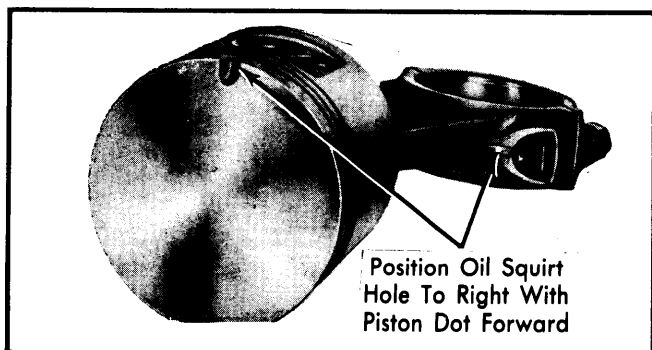

Fig. 6 Piston and Connecting Rod Alignment Marks
**NOTE** — Notch on piston head should be toward front of engine. Connecting rod oil squirt hole should be to the right. See Fig. 6.